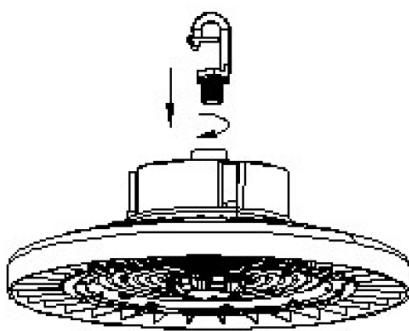

Fig. 1
1. Install the hook on fixture as shown in Fig. 1